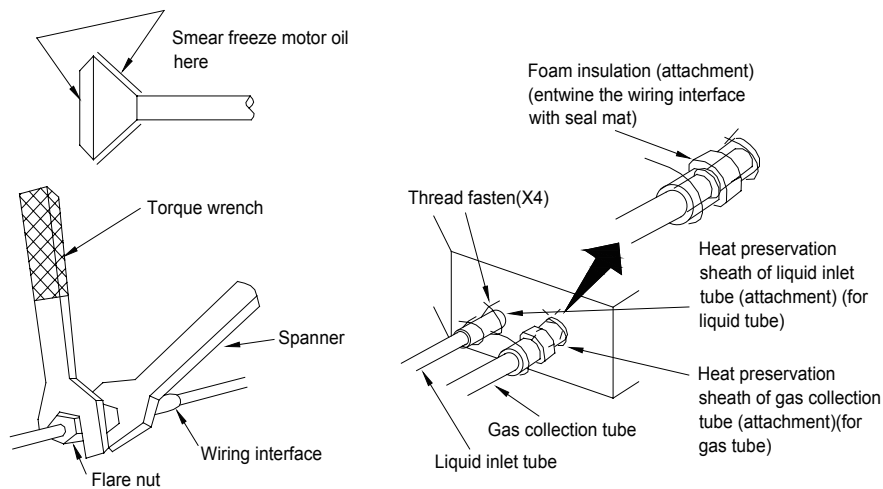

Fig.5
torque wrench. as shown in fig.5.
- ◆ Examine the connection pipe to see if it has refrigerant leakage, then install insulation, as shown in the Fig.5.